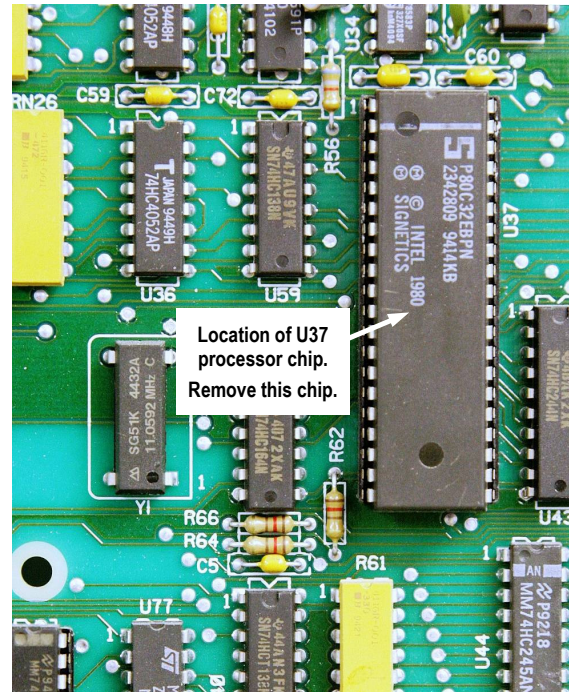

Fig. 3: Remove the processor chip located in "U37".
3. **IMPORTANT:** To avoid damaging the Accelerator board pins, remember to remove U37, the 40-pin processor chip. Location U37 is the 40-pin receptacle into which the Accelerator PCB will be placed. See image in Fig. 3 for the location.